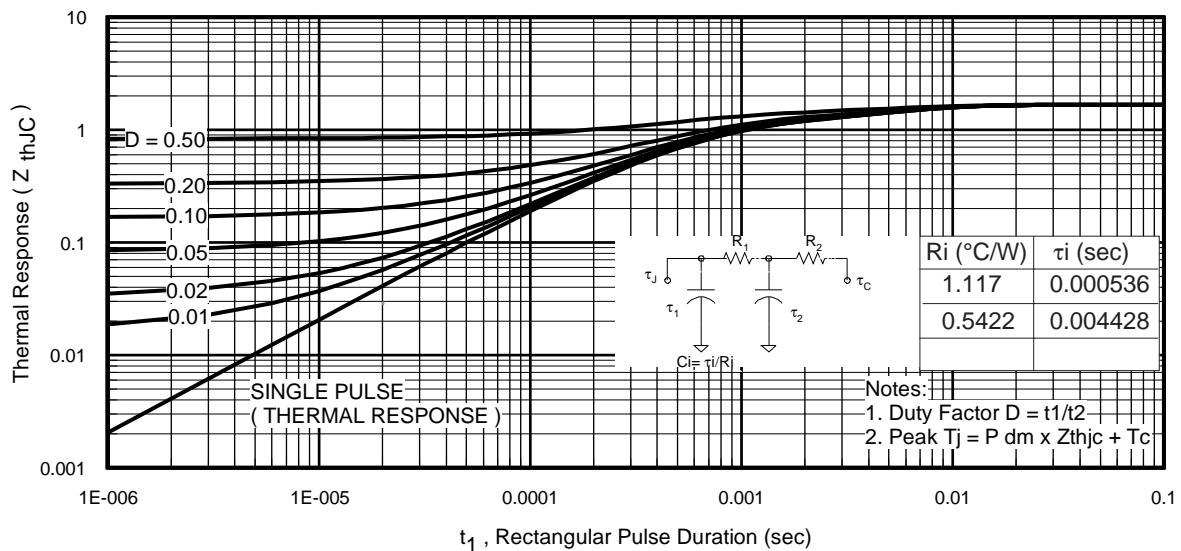
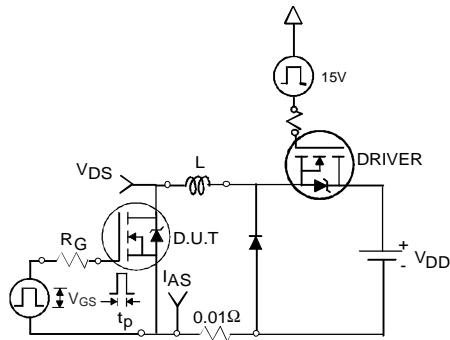

Fig 11. Maximum Effective Transient Thermal Impedance, Junction-to-Case
Fig 12a. Unclamped Inductive Test Circuit
3. Equation below based on circuit and waveforms shown in Figures 12a, 12b.
$Z_{thJC}(D, t_{av})$ = Transient thermal resistance, see figure 11)
- ① Repetitive rating; pulse width limited by max. junction temperature. (See fig. 11).
- ② Limited by $T_{J\max}$, starting $T_J = 25^\circ\text{C}$, $L = 0.09\text{mH}$ $R_G = 25\Omega$, $I_{AS} = 42\text{A}$, $V_{GS} = 10\text{V}$. Part not recommended for use above this value.
- ③ Pulse width $\leq 1.0\text{ms}$; duty cycle $\leq 2\%$.
- ④ $C_{oss\ eff}$ is a fixed capacitance that gives the same charging time as C_{oss} while V_{DS} is rising from 0 to 80% V_{DSS} .
- ⑤ Limited by $T_{J\max}$, see Fig.12a, 12b, 15, 16 for typical repetitive avalanche performance.
- ⑥ This value determined from sample failure population. 100% tested to this value in production.
- ⑦ When mounted on 1" square PCB (FR-4 or G-10 Material). For recommended footprint and soldering techniques refer to application note #AN-994